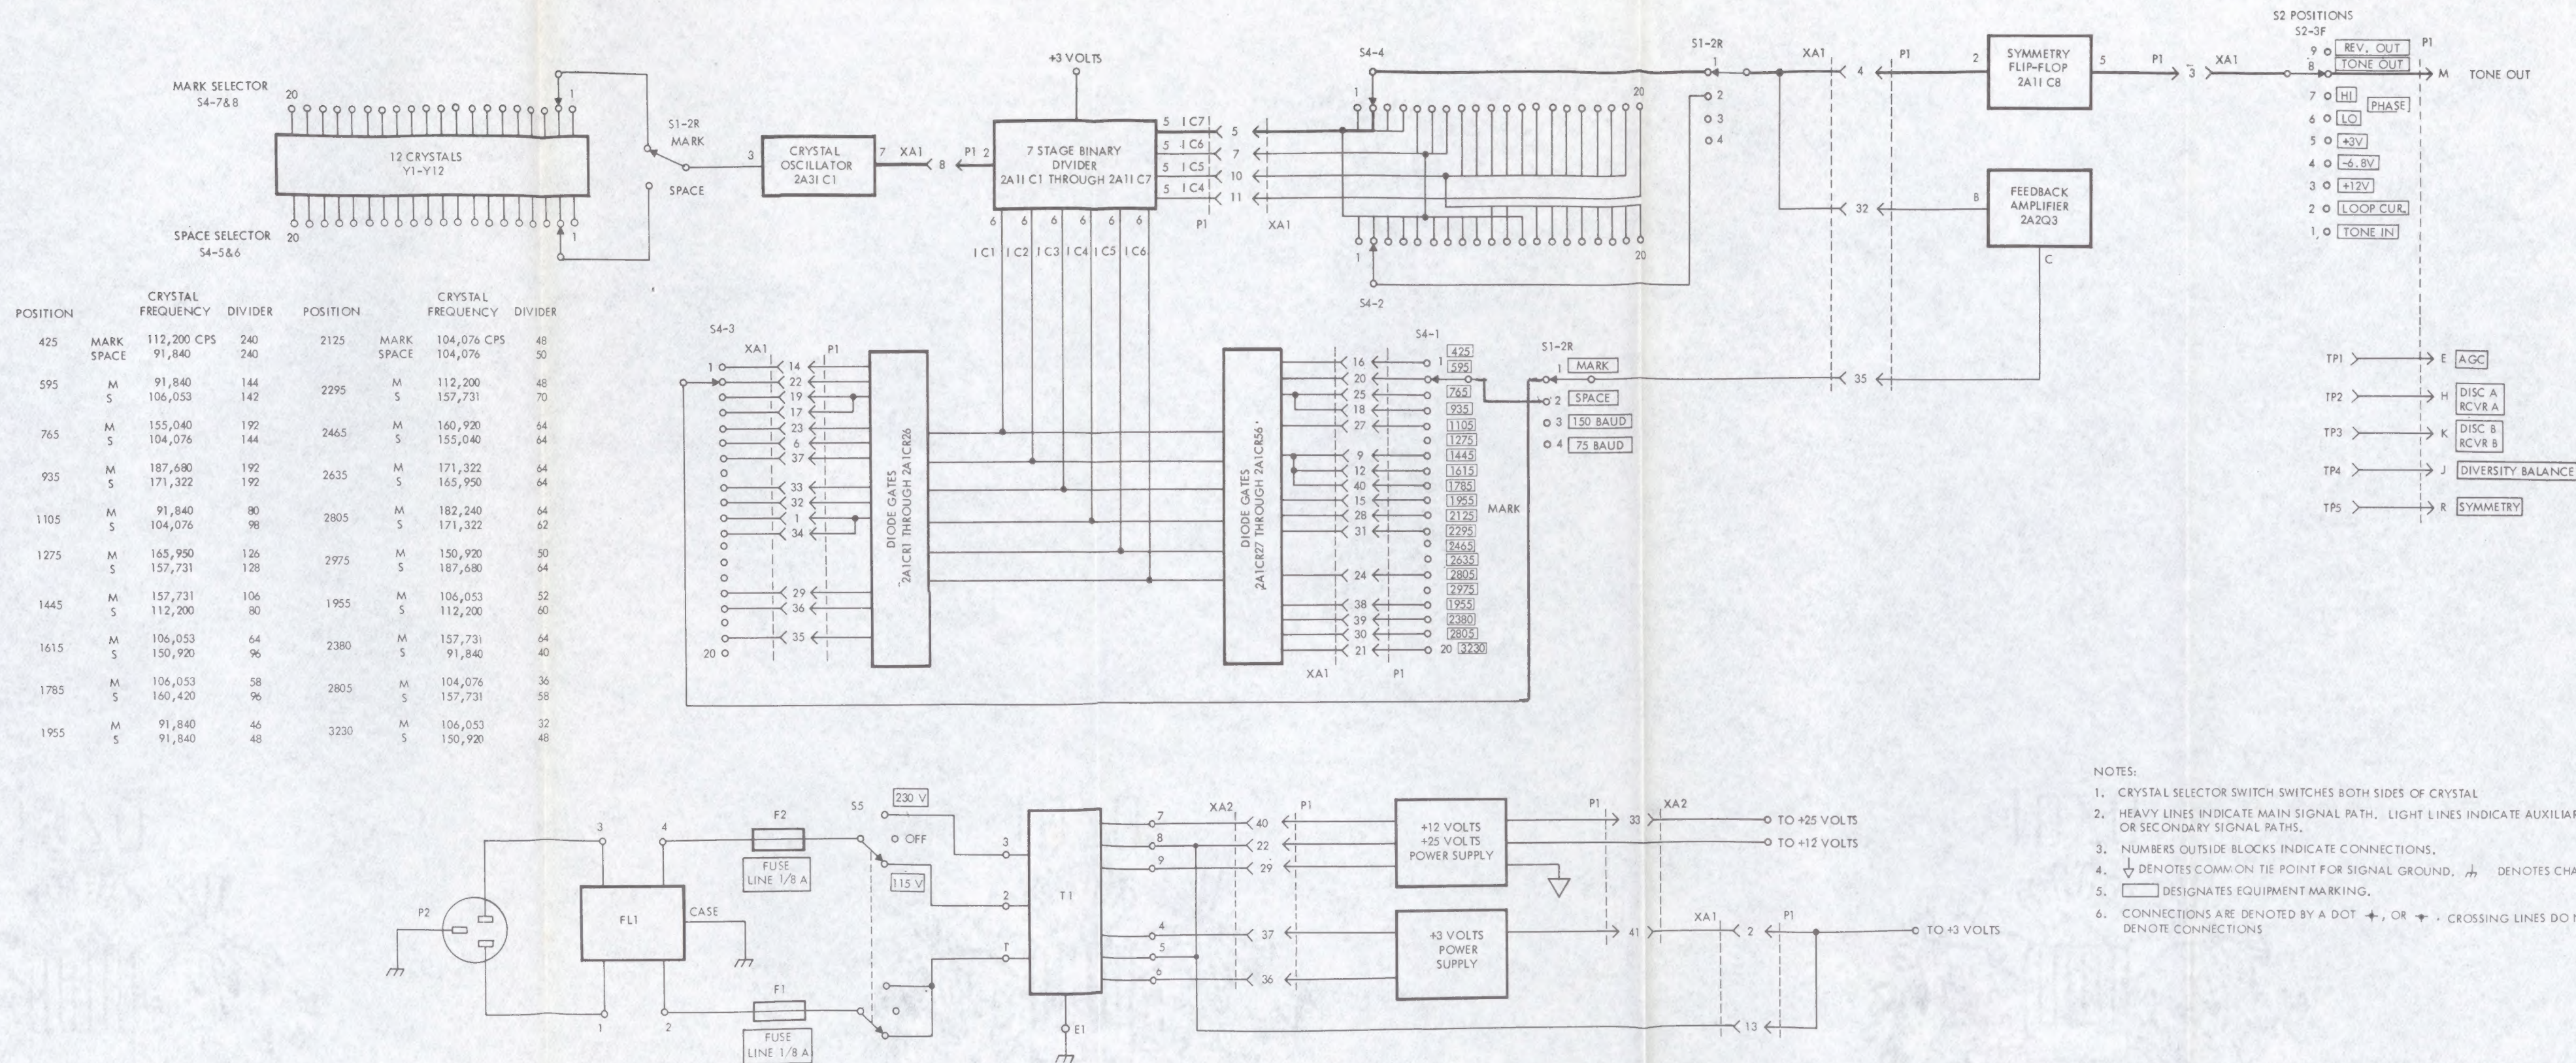

Figure 4-12. Test Set, Telegraph TS-2232/UCC-1C(V), Servicing Block **Diagram**
2-3-1D Figure 4-12, Test Set, Telegraph TS-2232/UCC-1C(V) Servicing Block Diagram (Sheet 1 of 2)
2-3-2D Figure 4-12, Test Set, Telegraph TS-2232/UCC-1C(V) Servicing Block Diagram (Sheet 2 of 2)